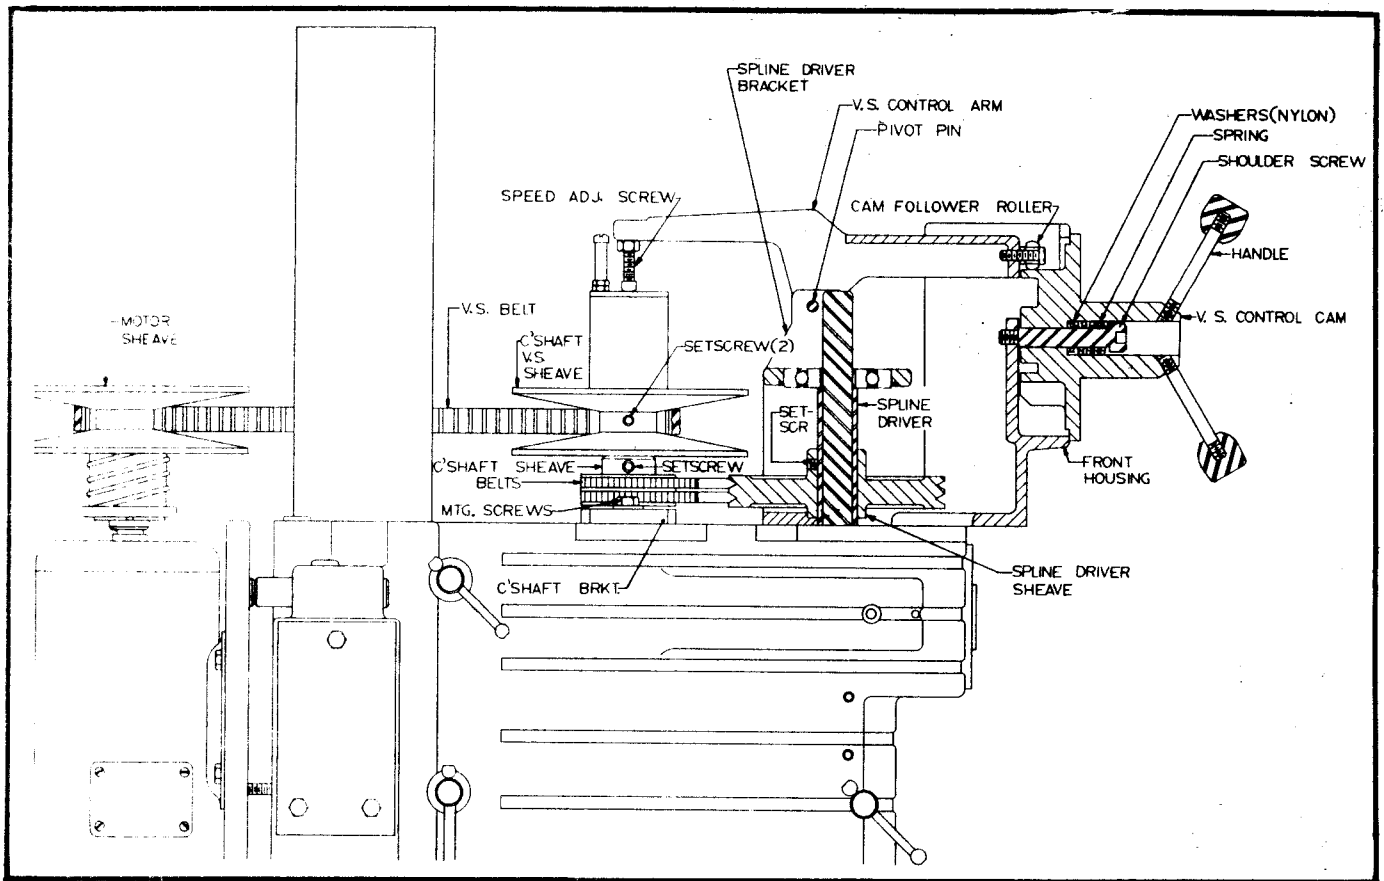

FIGURE 3
- a. Remove variable speed control cam (Fig. 3) by removing the center shoulder bolt, spring and washers. Remove the 4 (5/16) guard retaining screws and lift the guard from the machine.
If spindle speed does not appear to match the dial speed on variable speed unit -- check speed with a tachometer and adjust by turning bolt on control arm (See Fig. 3) clockwise and/or readjusting motor position to increase speed and counterclockwise to decrease.